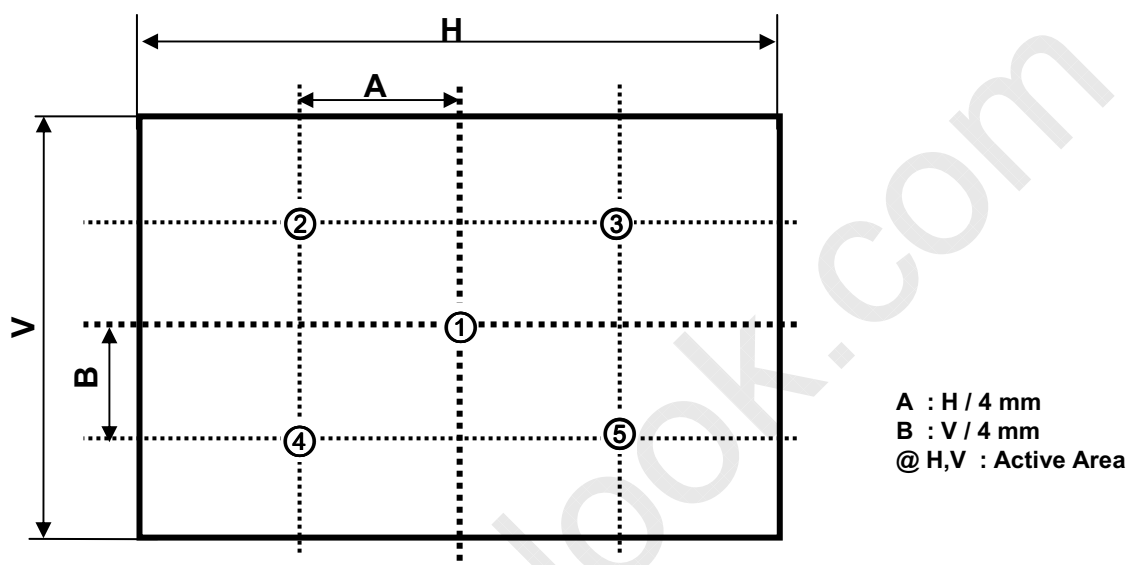

FIG. 2 5 Points for Luminance Measure
- Surface luminance is determined after the unit has been 'ON' and 1Hour after lighting the backlight in a dark environment at $25 \pm 2^\circ\text{C}$. Surface luminance is the luminance value at center 1-point across the LCD surface 50cm from the surface with all pixels displaying white. For more information see the FIG. 2.
For more information, see the FIG. 2.